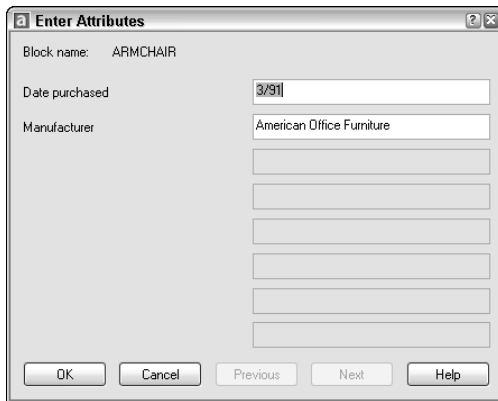

Figure 18-21: The Enter Attributes dialog box
- Pick a point in front of the desk (turn off OSNAP if necessary). AutoCAD inserts the armchair and opens the Enter Attributes dialog box, as shown in Figure 18-21. The values that were entered when the attributes were defined are displayed, but you can change them.